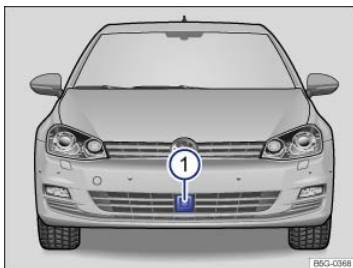

Fig. 158 In the front bumper: Radar sensor.
Vehicles equipped with ACC have a radar sensor below the front bumper to monitor the traffic situation ⇒ Fig. 158①. The sensor can detect moving vehicles up to about 130 yards (120 m) in front of your vehicle.